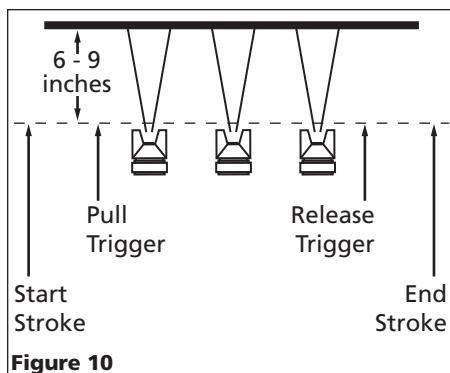

Figure 10
3. Trigger the gun properly. Start the gun moving at the beginning of the stroke **BEFORE SQUEEZING THE TRIGGER** and release the trigger **BEFORE STOPPING GUN MOVEMENT** at the end of the stroke. This procedure will feather (blend) each stroke with the next without showing overlap or unevenness (See Figure 10).